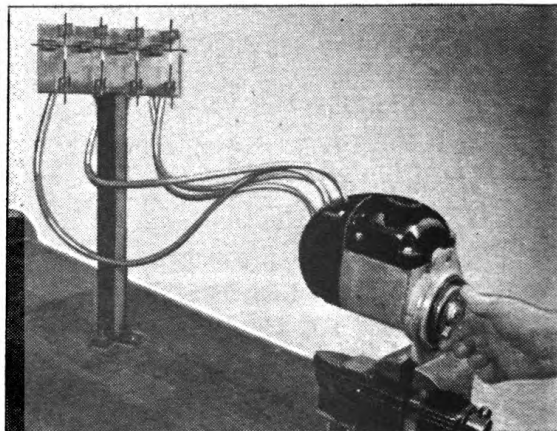

Fig. 40. Testing Magneto with Three-Point Spark Gaps Set at 3/8 Inch Jumps
2. The 4 spark plug wires from the distributor cap terminals should be attached to the four 3-point spark gaps which are set at 3/8 inch spark jump gaps. Fig. 40.
3. Turn the magneto by hand in the same direction as it revolves on the engine to see if there is sufficient spark to jump the $\frac{3}{8}$ inch gap at all 4 terminals. Fig. 40. Also determine whether or not the impulse latches and trips freely like a new magneto. The latter is checked by feeling only, and the operator must accustom himself to know how a correctly operating impulse feels.